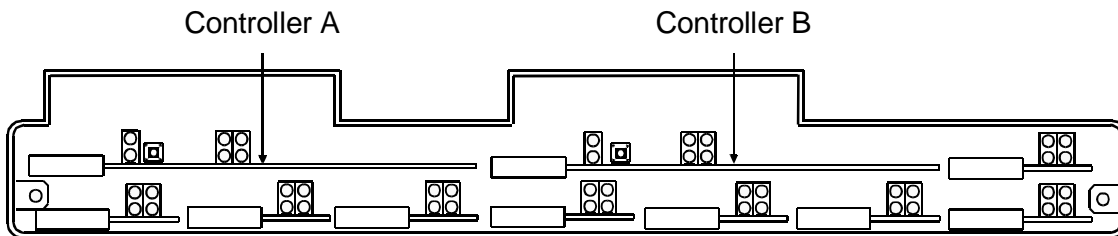

Figure 16-2. Location of Controller Cards
1. Locate standby Controller card slot (see Figure 16-2).